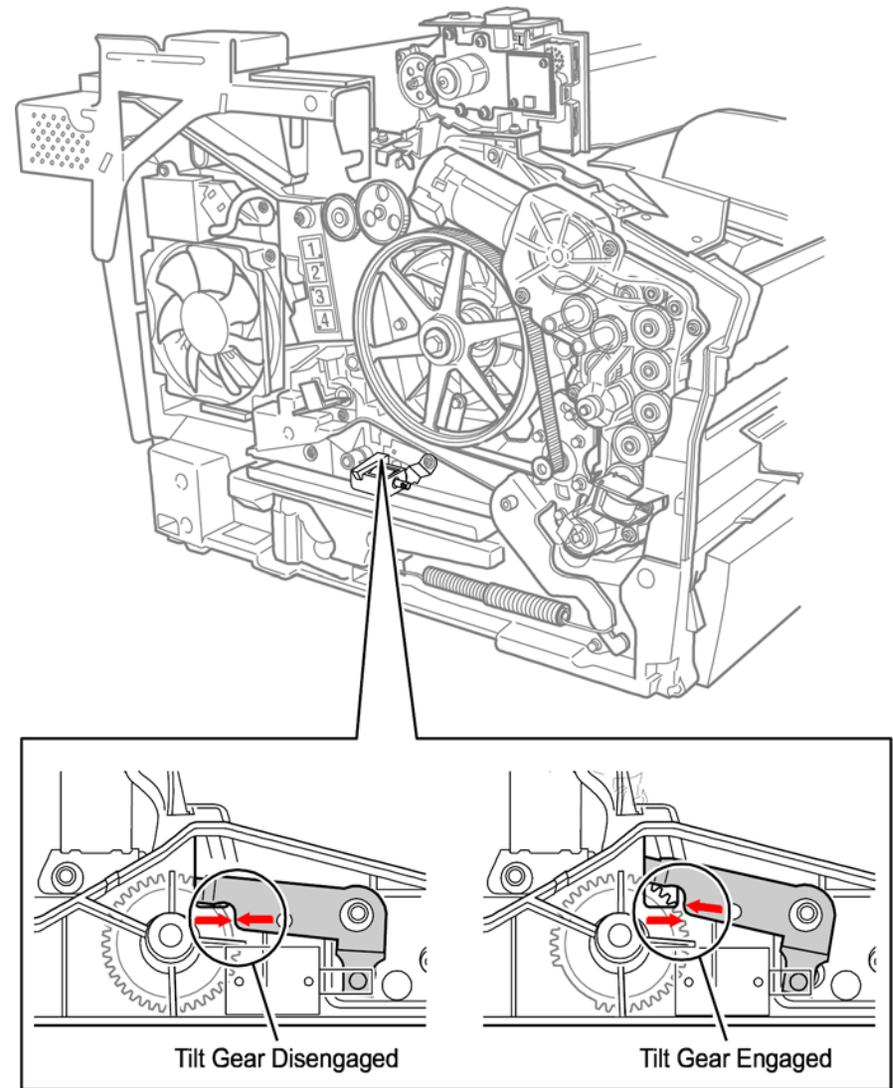

Figure 3 Head Tilt Gear Indicator
3. Disengagement of the Head Tilt Gear is indicated by the alignment of the two arrows on the left side of the chassis as shown in Figure 3.